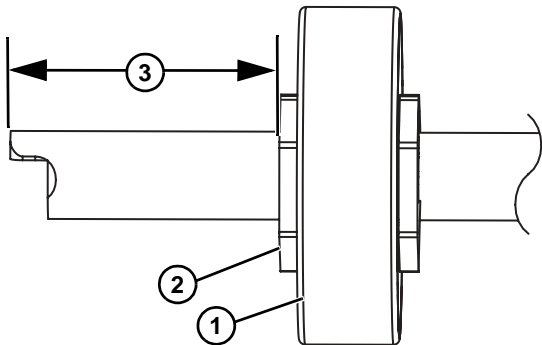

**Figure 15**
- c. To lock the retainer plate (**Figure 15, item 1**) in place, move the wrenches (**Figure 15, item 2**) away from each other.